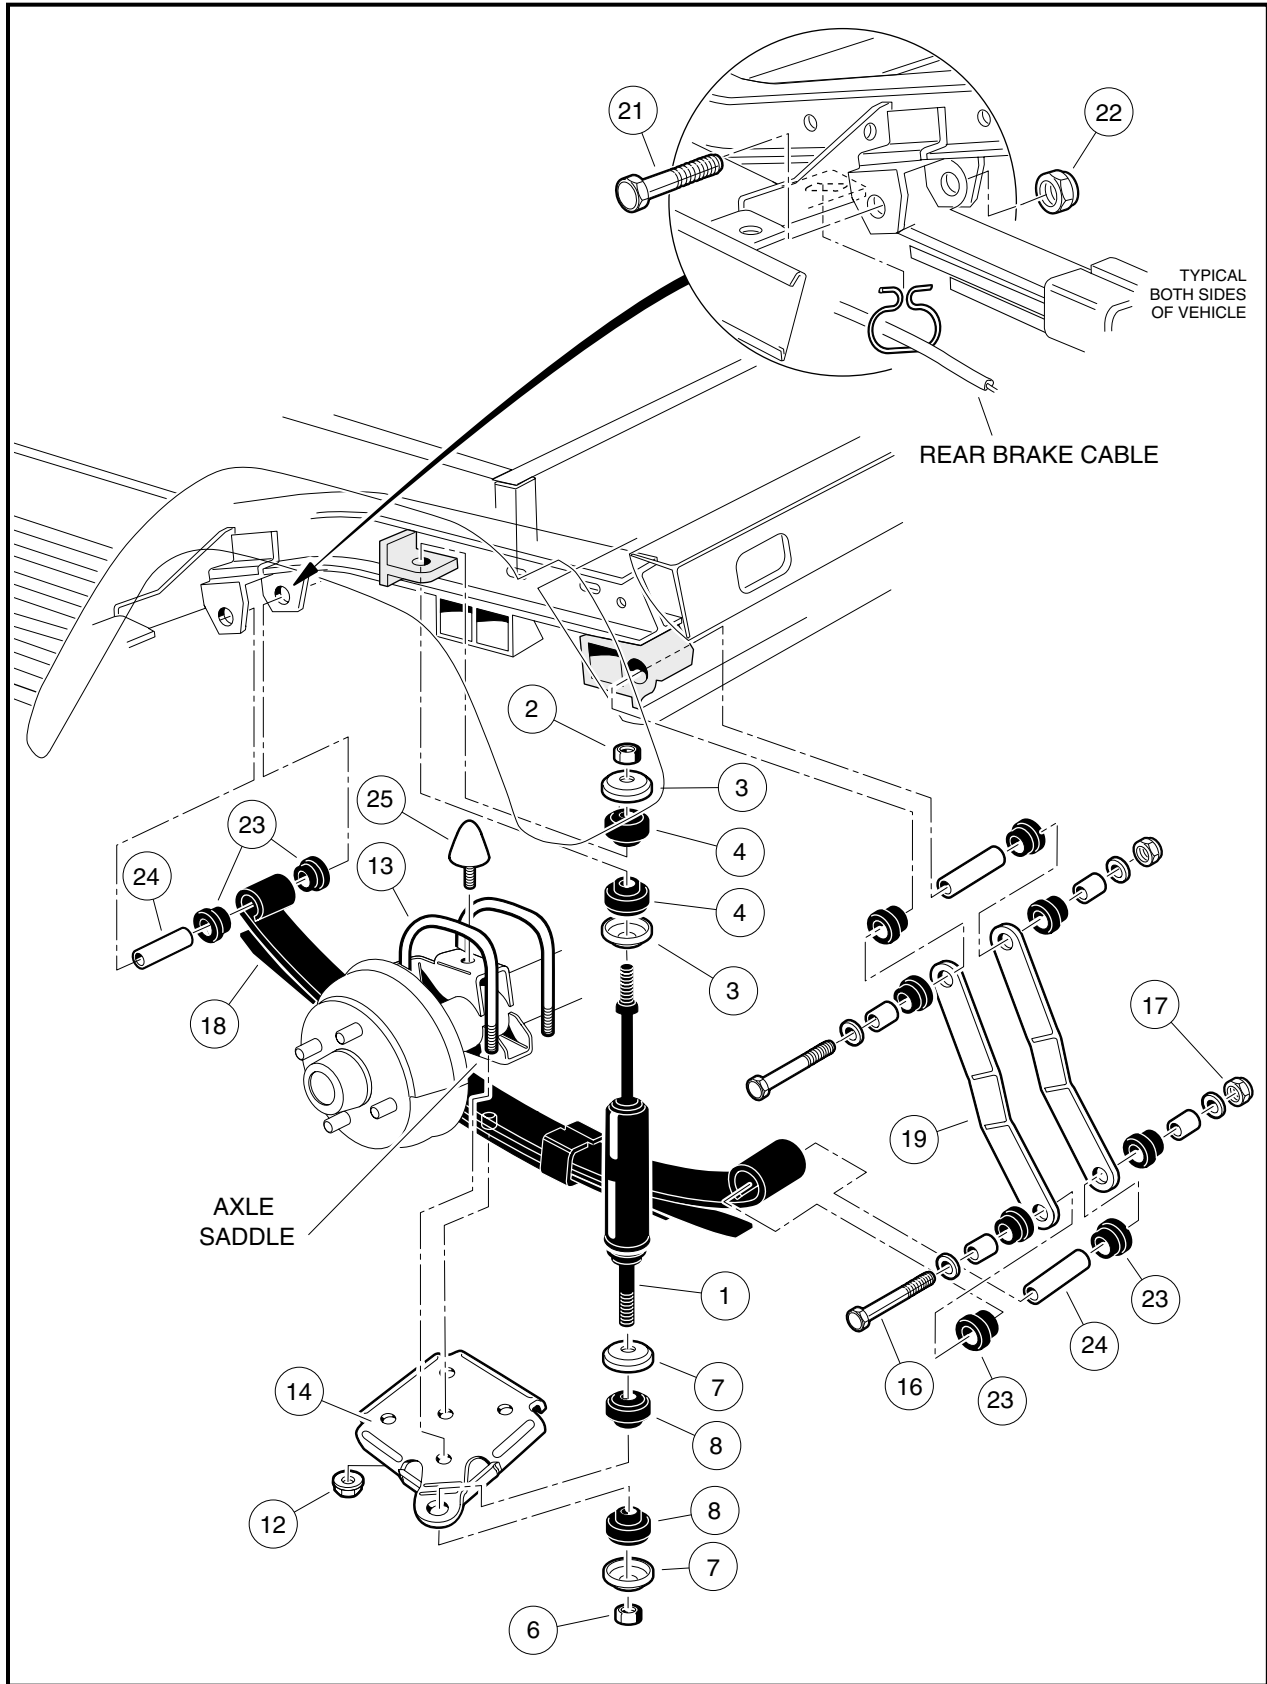
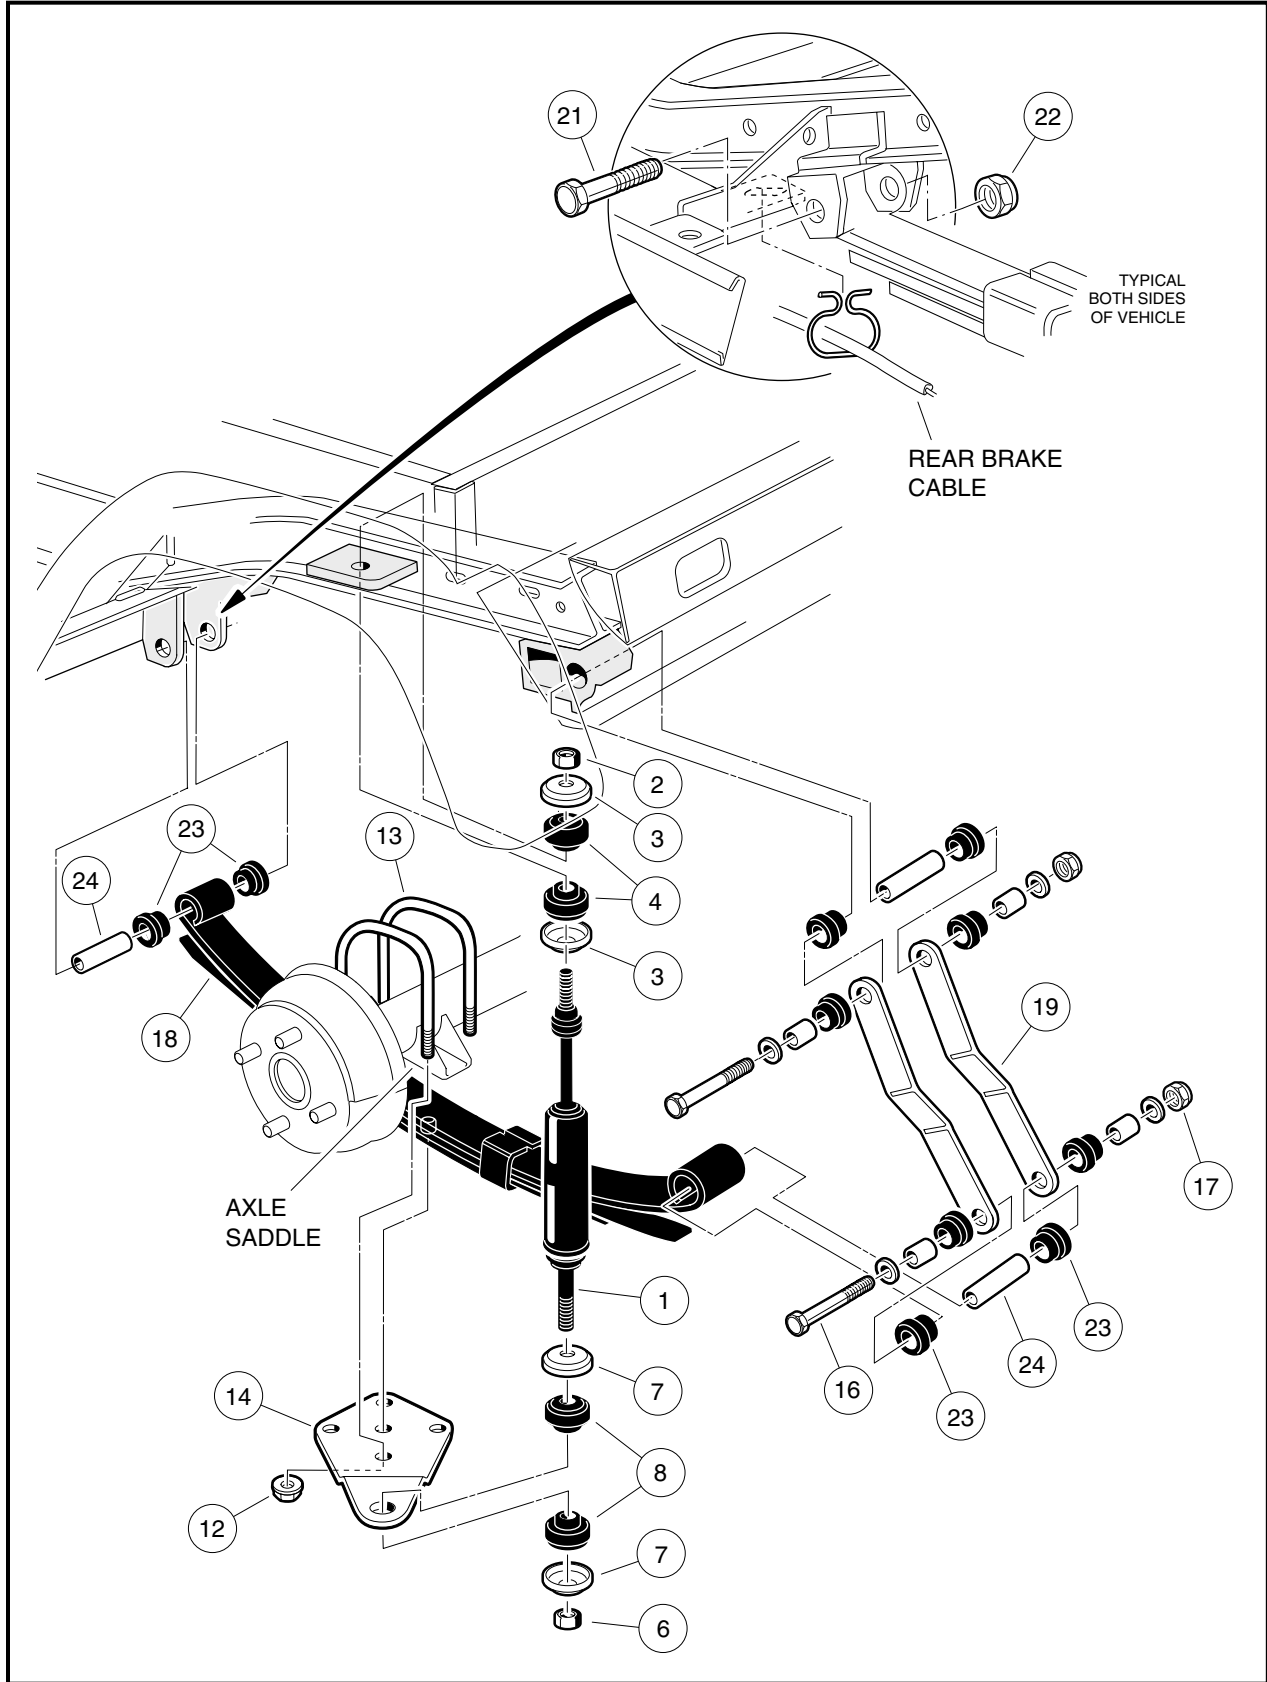

Figure 9-1 Rear Suspension for MC012C-AS00 Transaxle
Figure 9-2 Rear Suspension for MC010C-BS00 Transaxle
1. Check shock absorbers (1) for damage or fluid leakage around the lower housing of the shock absorber body. Replace damaged or leaking shock absorbers (**Figure 9-1, Page 9-3 or Figure 9-2, Page 9-4**).
2. To remove a shock absorber (1), remove the nut (2), cup washer (3) and rubber bushing (4) from the upper shock absorber stem.
2. On the upper shock absorber mount, tighten nut (2) until rubber bushings (4) expands to the same diameter as the cup washers (3) (**Figure 9-1, Page 9-3 or Figure 9-2, Page 9-4**).
3. On the lower shock absorber mount, install mounting hardware. Tighten the nut (6) until the rubber bushings (8) expands to the same diameter as the cup washers (7).
7. Remove the lock nuts (12) attaching the U-bolts (13) to the shock mount bracket (14) (**Figure 9-1, Page 9-3 or Figure 9-2, Page 9-4**).
8. Remove bolt (16) and lock nut (17) attaching the leaf spring (18) to the rear shackles (19).
9. Allow rear of leaf spring (18) to rest on the ground and remove the bolt (21) and lock nut (22) attaching the front of the spring to the vehicle frame. Remove spring from vehicle.
10. Inspect the rubber bushings (23) and steel sleeves (24) in the spring eyes and replace them if they are worn or damaged.
1. Install rubber bushings (23) and steel sleeves (24) into both leaf spring eyes if bushings were removed (**Figure 9-1, Page 9-3 or Figure 9-2, Page 9-4**).
2. Place front of leaf spring (18) into front spring mounts and insert the grade eight bolt (21) through mount and leaf spring eye. Install lock nut (22) and tighten to 15 ft-lb (20.3 N·m).
3. Align the other end of leaf spring with the holes in the spring shackles (19). Insert bolt (16) through leaf spring eye and shackles. Install lock nut (17) and tighten to 15 ft-lb (20.3 N·m). Lower transaxle onto leaf spring (18) (**Figure 9-1, Page 9-3 or Figure 9-2, Page 9-4**).
- When placing transaxle on spring, be sure to position locating bolt on the spring in the center locating hole in the axle saddle (**Figure 9-1, Page 9-3 or Figure 9-2, Page 9-4**).
4. Install shock mount bracket (14) onto locating bolt at bottom center of leaf-spring. **See preceding NOTE.**
5. Install U-bolts (13) and lock nuts (12). Tighten lock nuts in a crisscross pattern to 35 ft-lb (47.5 N·m).